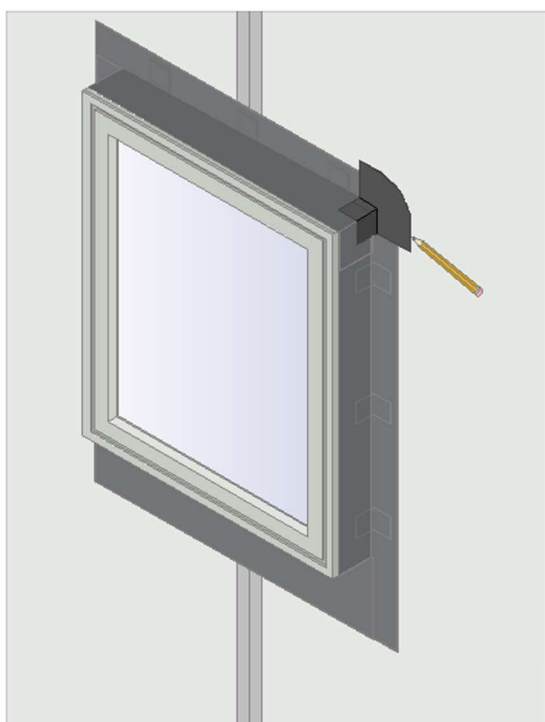

Figure 13
- Following full membrane application, place the 'dry' corner in position and use a marker to indicate the proposed location (Figure 13).